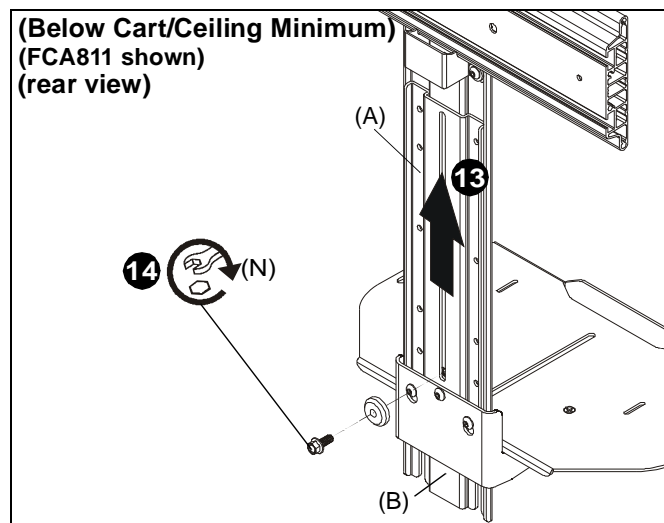

Figure 13
13. (For **minimum extension**) Slide upright bracket behind main bracket. (See Figure 13)
14. (For **minimum extension**) Use 1/4-20 x 5/8" hex head flange bolt (N) and center washer (F) to secure upright bracket (A) to main bracket (B). (See Figure 13)